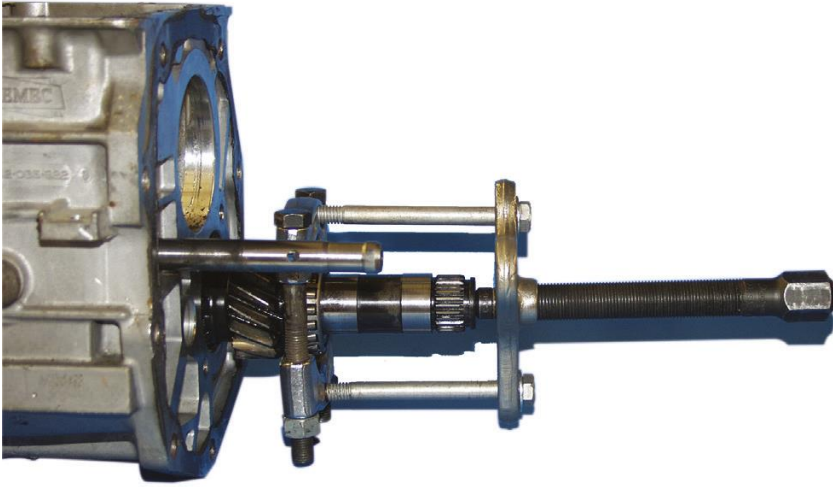

Figure 7. A rear bearing being removed using a gear/bearing puller.
4. Remove the rear bearing and then remove the main shaft assembly. This usually involves using a puller to remove the bearings. Figure 7.